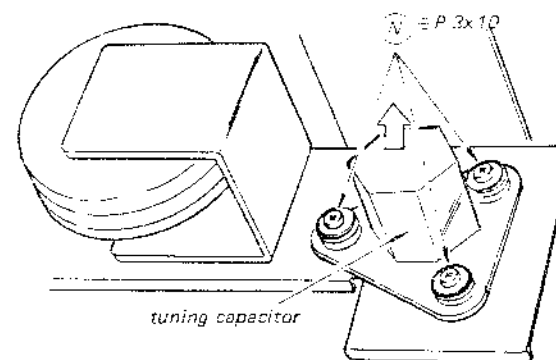

Fig. 2-19.
5. Remove the three screws marked ⑥ in Fig. 2-19 and pull off the a-m tuning capacitor in the direction shown by the arrow.